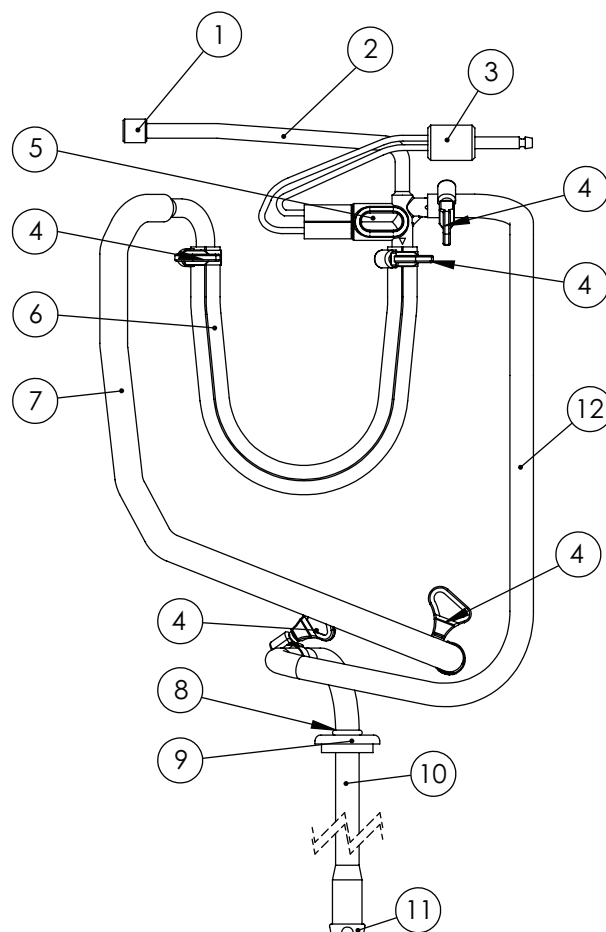

Figure 7-5 MTS Hose Assembly (LEFT SIDE*)
12. Disassemble the MTS hose assemblies as shown in figure 7-5.